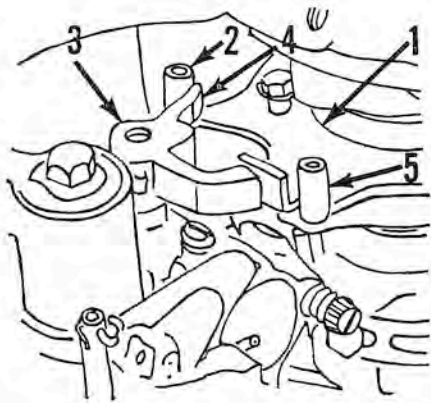

Fig. M81—Throttle control mechanism used on early six cylinder models.
On all models, slowly move the speed control lever in the "forward" position (engine not running) until the magneto advance stop just touches the crankcase. Refer to Fig. M81. Loosen the screws securing the throttle actuator assembly (1) to sector gear;